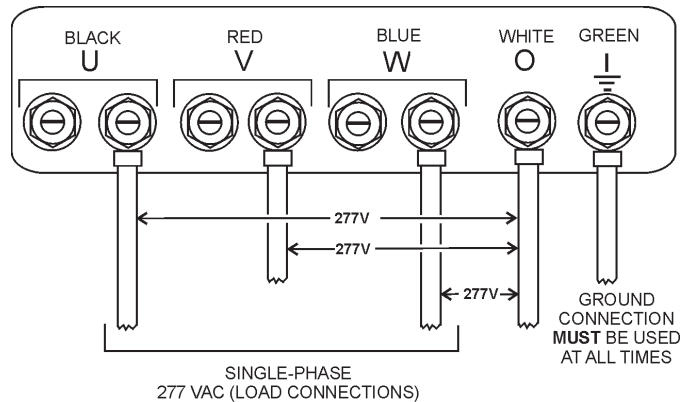

Figure 29. UVW Terminal Lugs 1Ø-277V Connections
2. Connect the load wires to the UVW terminals as shown in Figure 29.